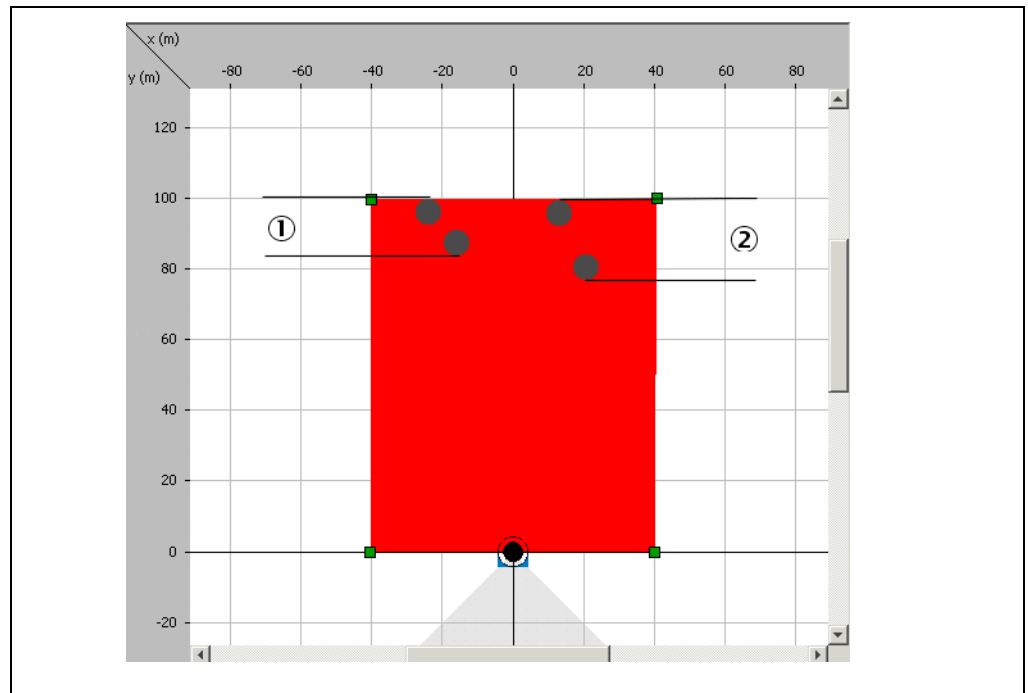

Fig. 13: Object separation with blanking of objects
In Fig. 13 the objects in example (1) are so close together (distance \leq value in the OBJECT SEPARATION field) that they are considered as one object. As a result the objects are not blanked and the evaluation field is considered infringed.